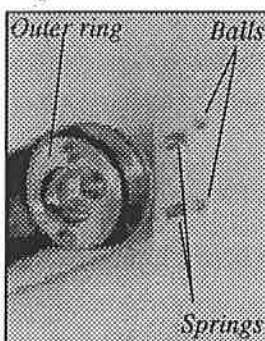
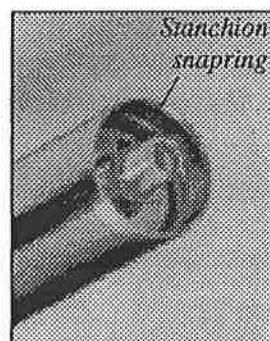
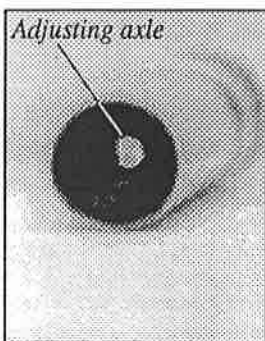
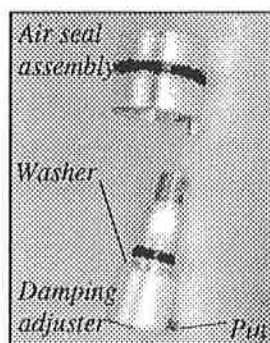

Fig. 5
Fig. 6
Fig. 7
Fig. 10
8. Pull the damping dial out of the stanchion. Remove the 2 small balls and 2 springs (Fig. 5).
10. Place the wide end of the damping dial snapping driver on the outer ring surrounding the schraeder valve (Fig. 5). Push down about 1/8 inch (3 mm) into the stanchion, just until the snapping is visible (Fig. 6). There is an adjusting axle underneath which will not allow pushing any farther (Fig. 7).
14. Push the air valve through the air seal assembly with your fingers to remove the damping adjuster (Fig. 10). Also note the thin washer between the air seal assembly and damping adjuster. Install the damping adjuster into the stanchion, making sure the small pin inside the damping adjuster (Fig. 10) lines up with the "D" shape of the adjusting axle (Fig. 7). Press the air seal assembly over the damping adjuster. Re-install the stanchion snapping to hold the air seal assembly in place.